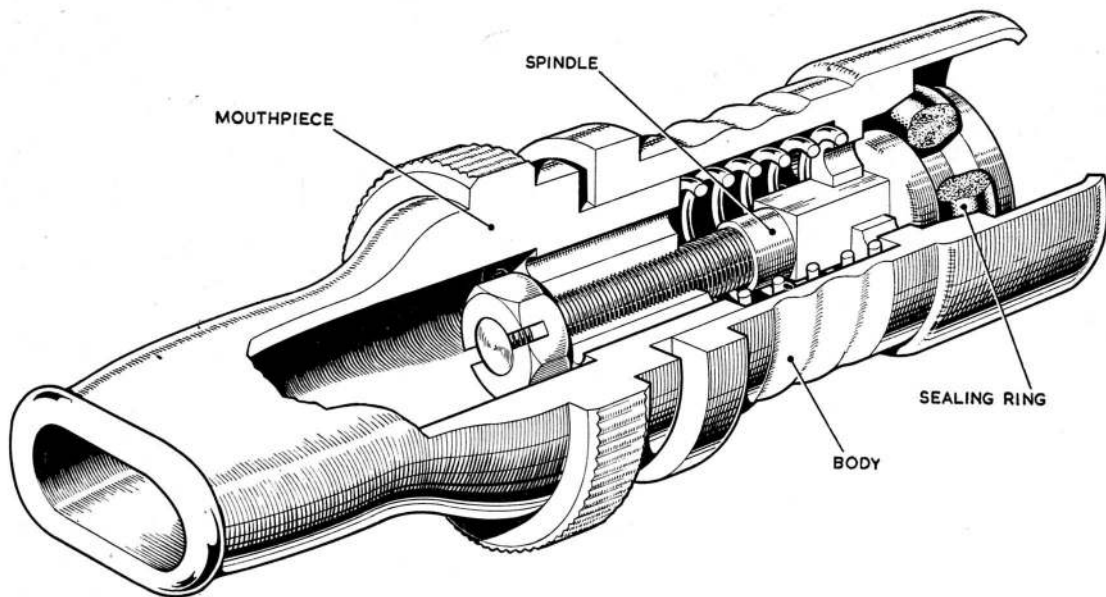

Fig. 6. Metal oral inflation valve
14. The oral inflation valve (*fig. 6*) is connected to the stole by a rubber tube. The valve consists of a mouthpiece and body, inside which is a spindle carrying a rubber sealing ring. The base of the mouthpiece fits inside the body and bears on a spring. A screwed portion of the spindle engages a threaded shoulder in the mouthpiece, and the sealing ring seats on a shoulder in the body. The mouthpiece is covered by a rubber sleeve (Stores Ref. 22C/1320).